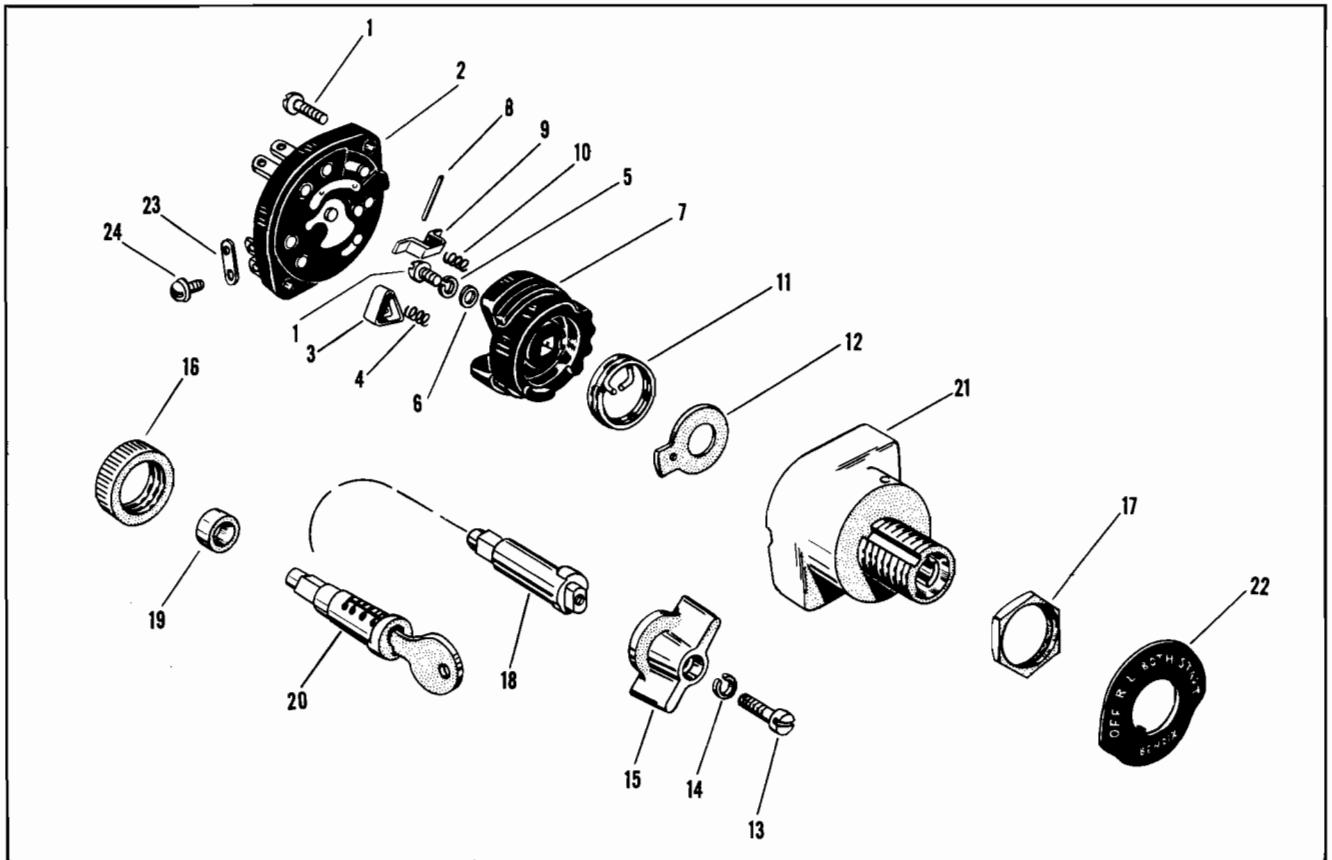

Figure 8. Exploded View of Starter Switches.
3-2. DISASSEMBLY (Figure 8).
3-8. Clean all switch parts thoroughly with trichlorethylene or other suitable solvent. Inspect switch rotor (7, figure 8) and contact support (2) for possible cracks and check contact surfaces for grooves or excessive wear. Inspect switch contact bracket (9) and switch contacts (3).